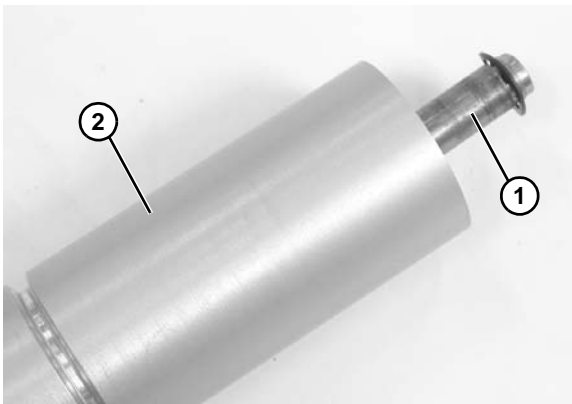

Figure 99
8. Slide the shaft assembly (Figure 99, item 1) out of the pulley (Figure 99, item 2).